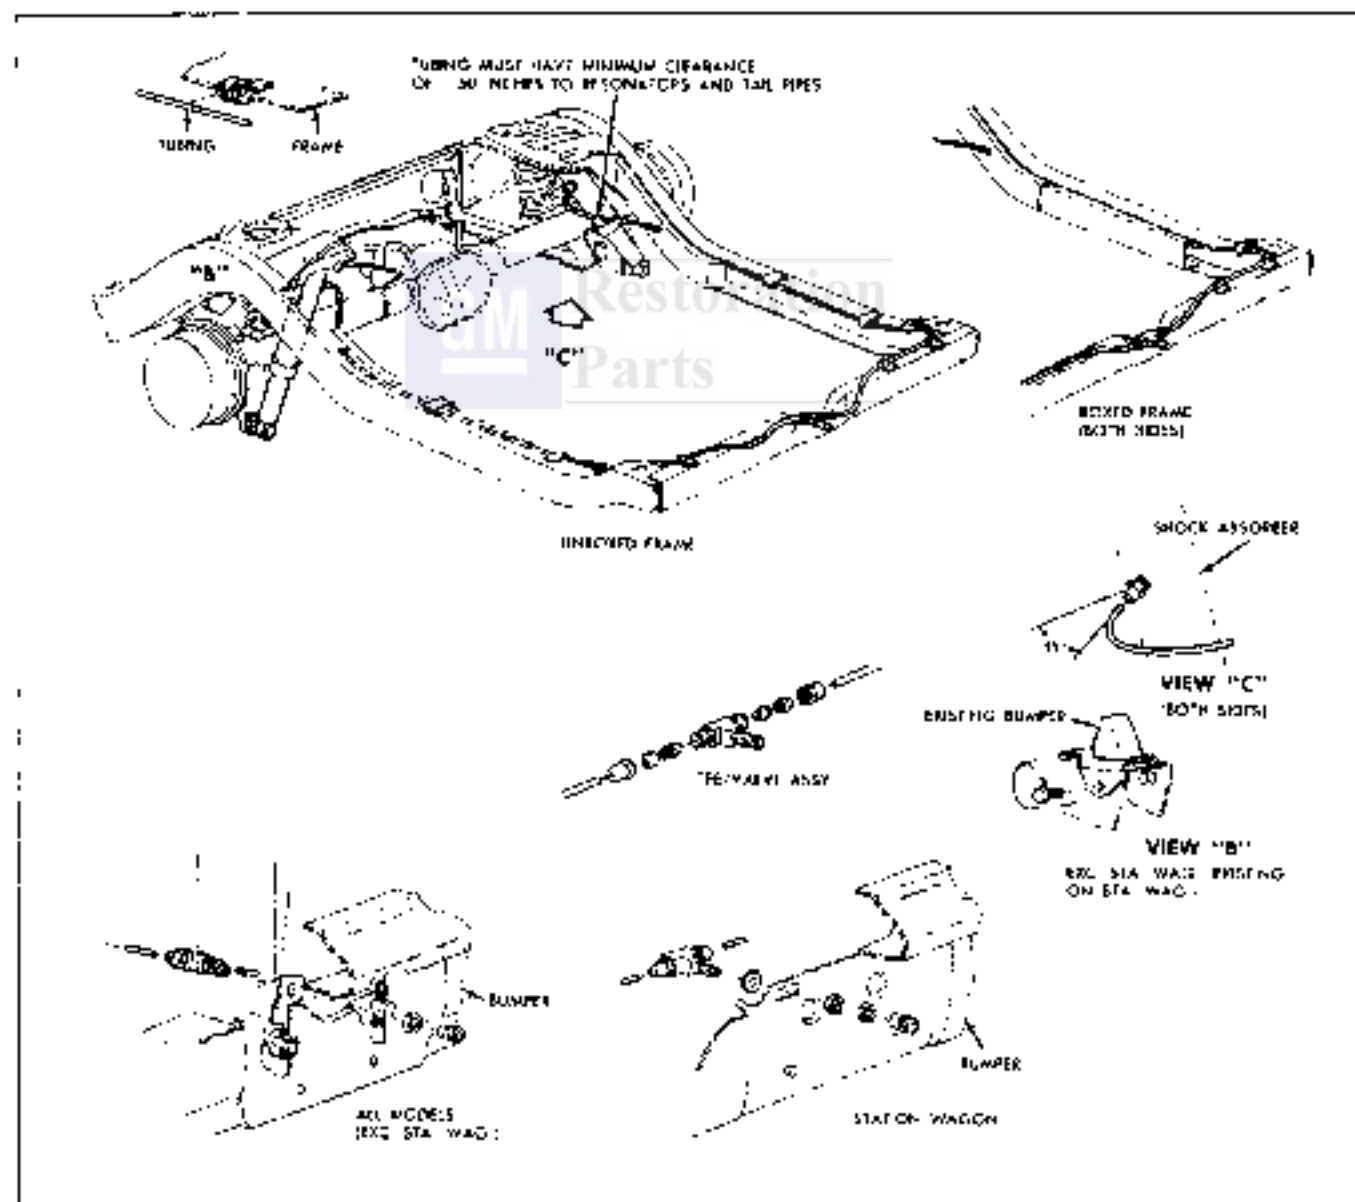

Fig. 4-17 Tempest Superlift Shock
1. Remove diaphragm retainer with diagonal pliers and discard retainer (Fig. 4-17).